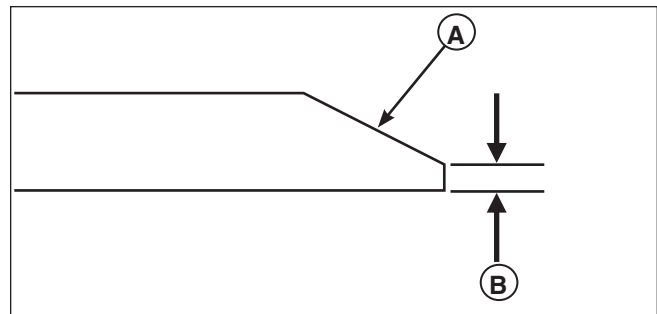

Figure 36. Sharpening the Mower Blade
3. Keep the original bevel (A, Figure 36) when grinding. Do NOT change the mower blade bevel.
4. The mower blade should have a maximum 1/64" (0,40 mm) cutting edge (B) or less.